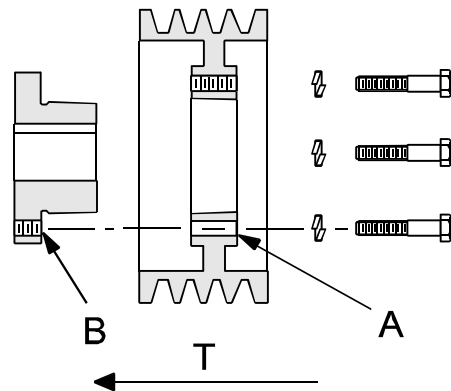
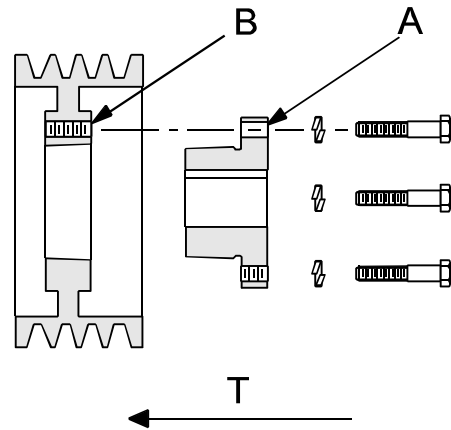

Figure 10: Hub Flange-In Mounting
Figure 11: Hub Flange-Out Mounting
2. Determine the bushing flange orientation that will provide the best shaft contact upon completion of installation, *i.e.*, “Hub Flange-in Mounting,” **Figure 10**, page 19 or “Hub Flange-out Mounting,” **Figure 11**, page 20. The most desirable orientation is with the bushing flange-in toward the tank.
1. Line up the clearance holes (A) in the sheave hub with the threaded holes (B) in the bushing flange, **Figure 10**, page 19. Insert the capscrews with lockwashers through the hub of the sheave and engage the threaded holes in the bushing flange.